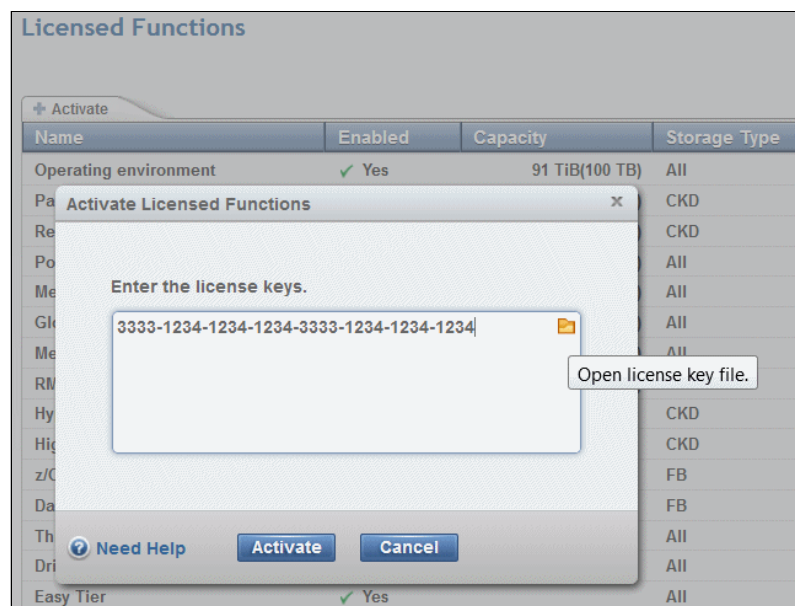

Figure 9-14 Activating additional licenses in the GUI
8. Click **Settings** → **System** → **Licensed Functions** → **Activate** in the GUI to enter the activation codes after the initial installation. Click the yellow symbol to import the XML file, or alternatively, you can enter individual license keys, as shown in Figure 9-14.